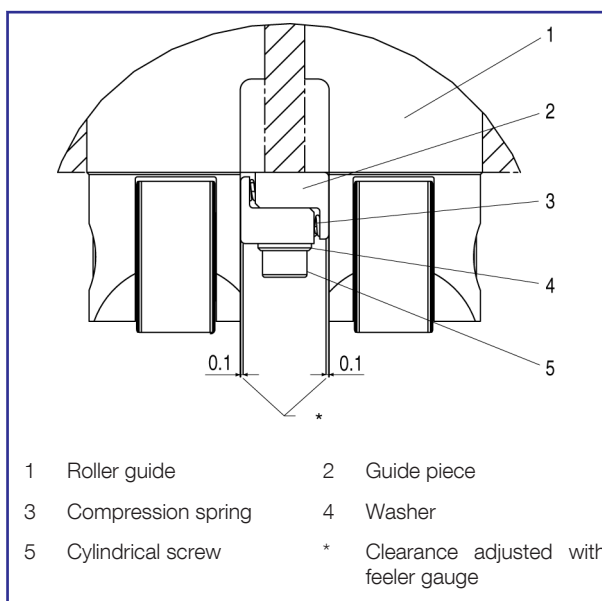

Figure 1: Inspection of roller guide and roller
- 1) Mount item 2-3-4-5 on the water jacket assembly, see fig 1.
- 2) Press the two guides together, and slightly tighten the two M6 bolts (item 5).